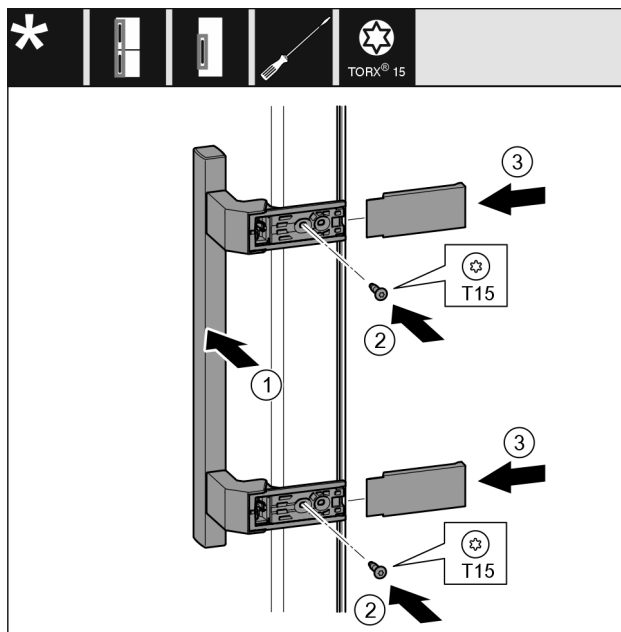

Fig. 21
- Place the handle Fig. 21 (1) on the opposite side.
- Tighten screws Fig. 21 (2) with screwdriver.
- Place the covers Fig. 21 (3) on the side and push them on.